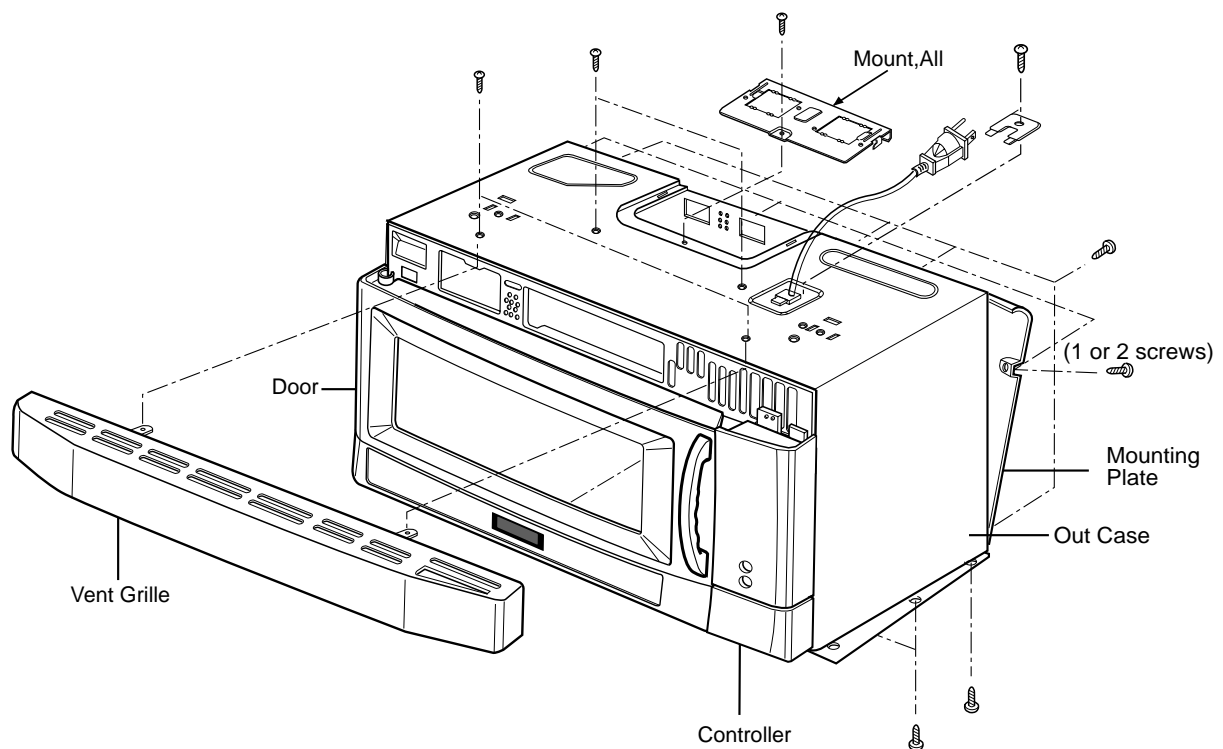

Figure 4
B. REMOVING THE OUT CASE(Figure 4)
- (1) Remove the vent grille by removing two screws securing it to the out case.
- (2) Remove two screws securing it to the air duct.
- (3) Remove the mounting plate by turning the screws (1 or 2 screws) securing it to the out case.
- (4) Remove two screws on the left central edge and two screws on the right central edge of Base plate. Remove the Mount, All from the out case by removing one screw securing it to the out case.
- (5) Remove the outcase with disconnecting power cord connector.